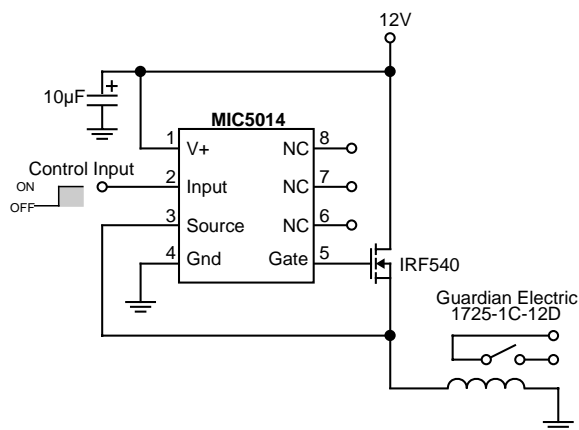

Figure 9: Relay Driver
**Relay Driver** (Figure 9) Some power relay applications require the use of a separate switch or drive control, such as in the case of microprocessor control of banks of relays where a logic level control signal is used, or for drive of relays with high power requirements. The combination of an MIC5014/5015 and a power FET also provides an elegant solution to power relay drive.